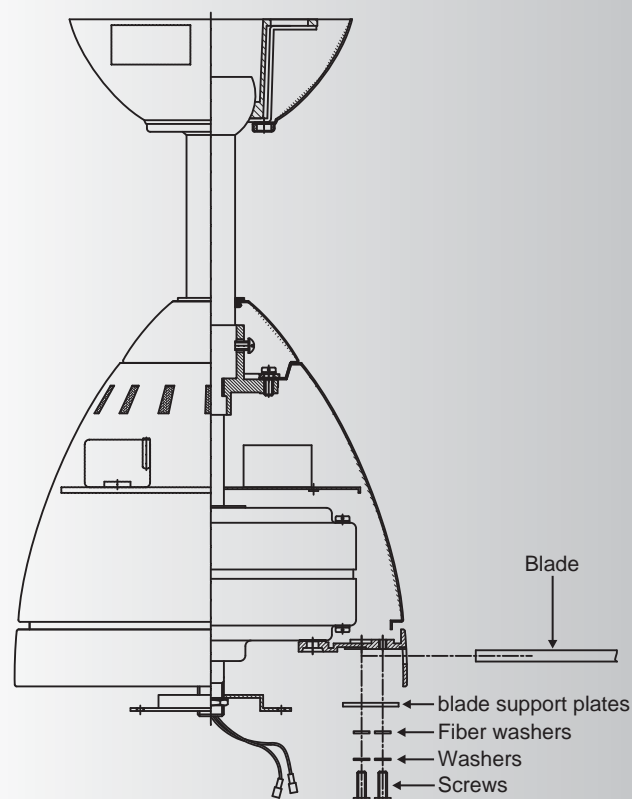

Fig. 16
Step 2. Align the holes in blade and blade bracket in motor housing, fasten blade to motor using blade support plates, washers, fiber washers and screws in the blade bracket. (Fig. 16)